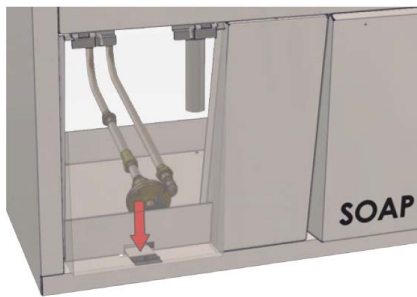

Figure 24: Push down knee panel door latch
1. Open the knee panel door by depressing the latch at the bottom of the panel door (Figure 24).